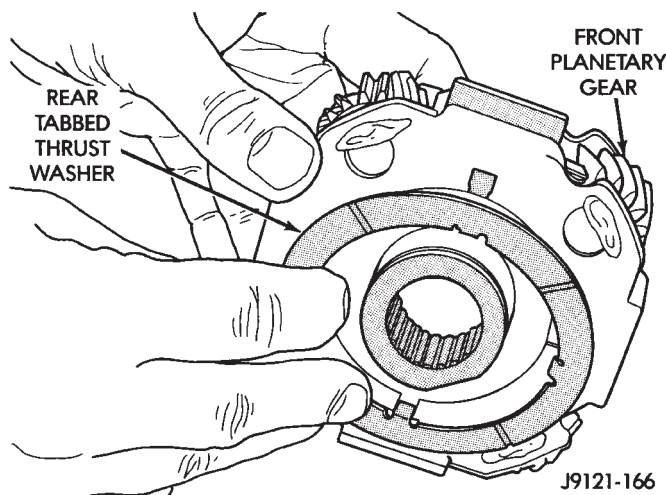

Fig. 175 Installing Rear Thrust Washer On Front Planetary Gear
(13) Install rear thrust washer on front planetary gear (Fig. 175). Use enough petroleum jelly to hold washer in place and be sure all four washer tabs are seated.